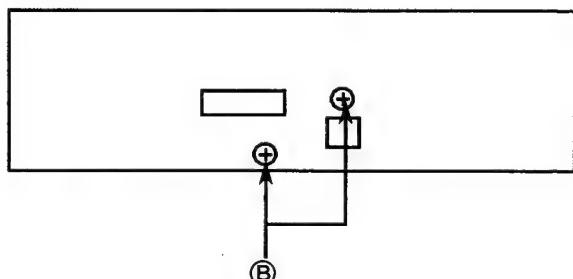

Fig.2
(3) Measurement of laser diode drive current (Fig.2)
Cut the jump wire (B107) and add a 1Ω resistor. (See the following Fig.2)
(Fig.2)